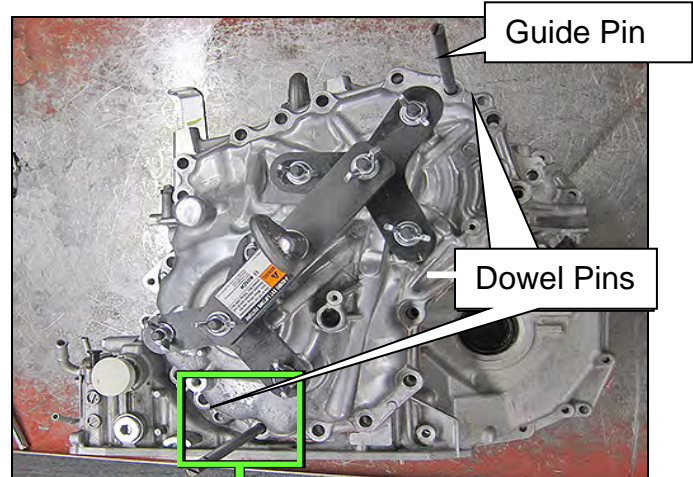
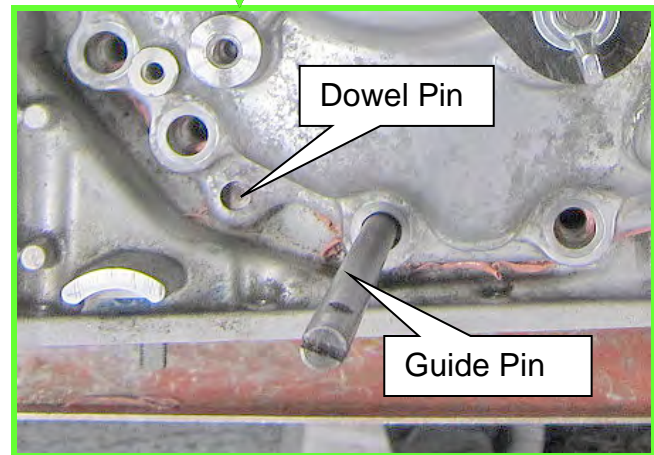

Figure 16F
Figure 17F
12. Install the two CVT Assembly Guide Pins (J-51959 - Guide Pins) as shown in Figure 16F and Figure 17F.